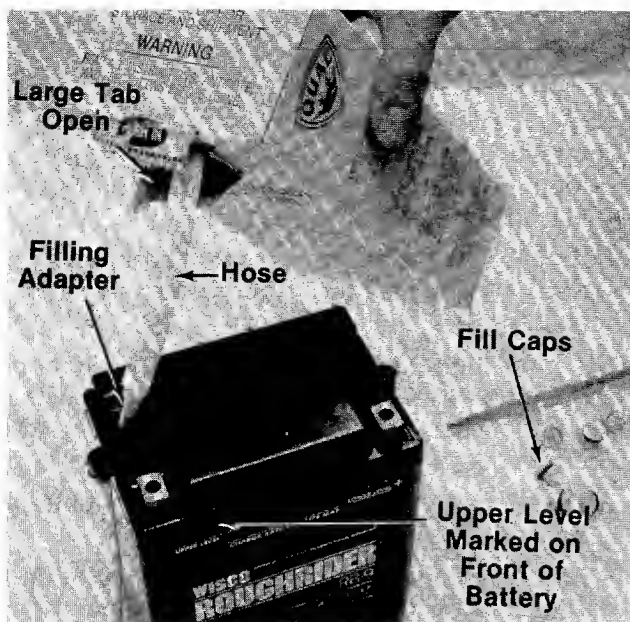

FIGURE 4.
6. Pull out hose from package and hold upright. Squeeze hose forcing all acid back into package. Cut off tip of hose and insert filling adapter. See figure 4.
7. Fill each cell to upper level marked on front of battery. Replace fill caps on battery. See figure 4.